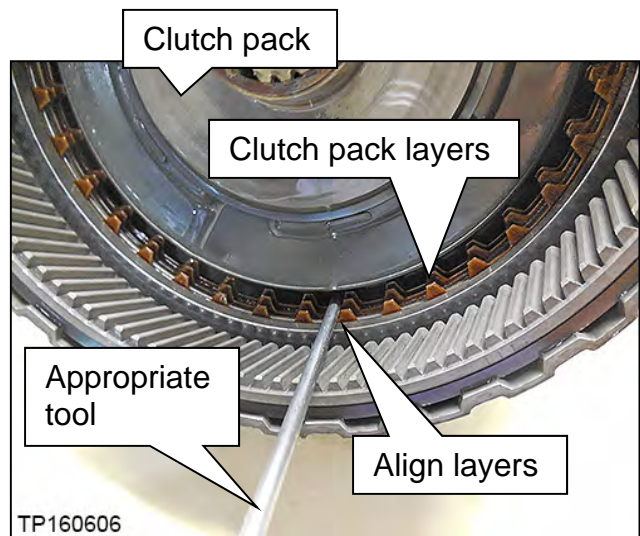

Figure 211
- Bottom of the clutch pack shown in Figure 211.